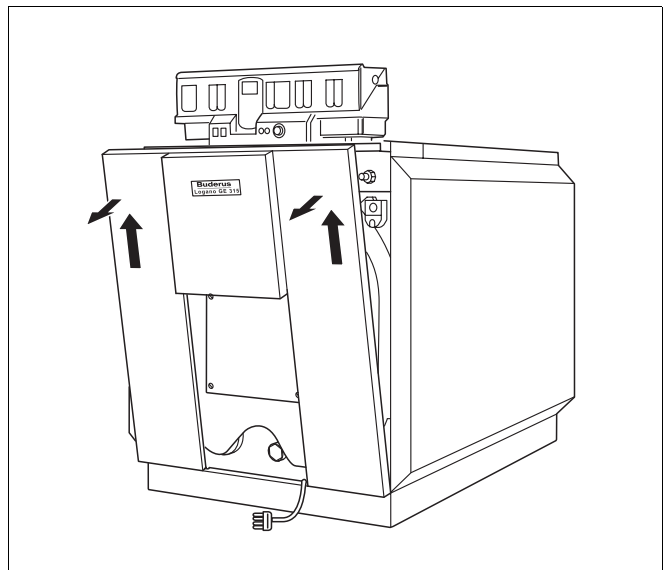
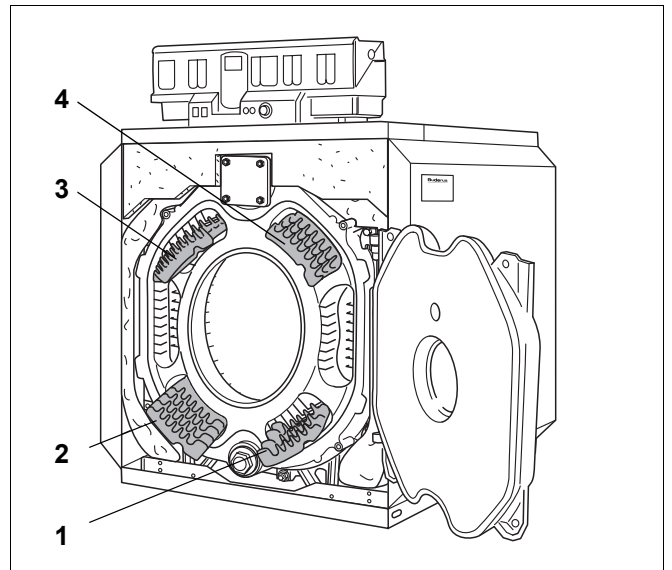

Fig. 53 Remove the front wall
Fig. 54 Remove the hot gas baffles
You will find an illustration of the various types of brushes offered by **Buderus** (optional accessory) in Fig. 53.
- Clean the hot gas flues (Fig. 54, **Item 1 & 3**) with cleaning brushes 1 and 2 (Fig. 53) from the front to the back.
- Clean the remaining combustion chamber (Fig. 54, **Item 2**) with cleaning brush 2.
- Clean the lower hot gas flues from the front with cleaning brush 2 (Fig. 54, **Item 1**).